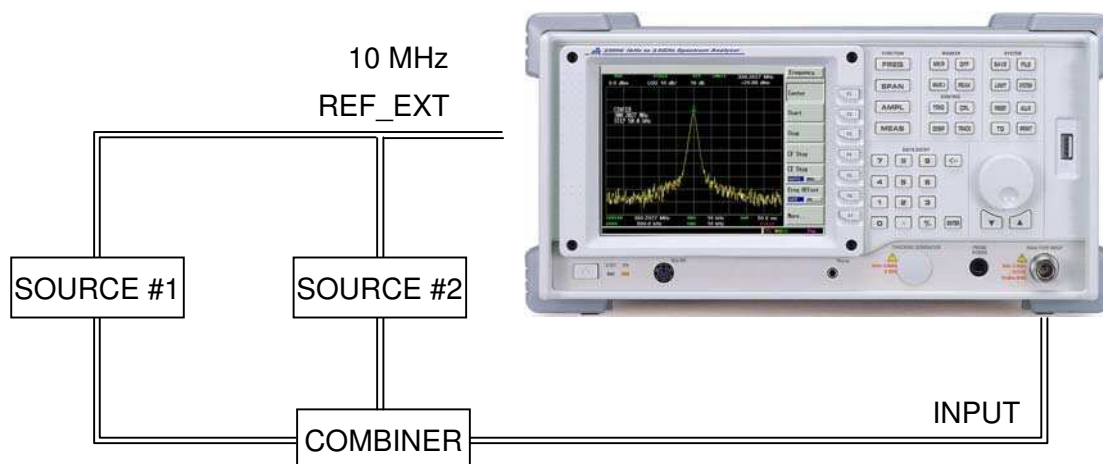

Figure 2-18. Third-Order Intermodulation Equipment Setup
1. Connect the equipment as shown in Figure 2-18. Press **PRESET**, *Preset*.